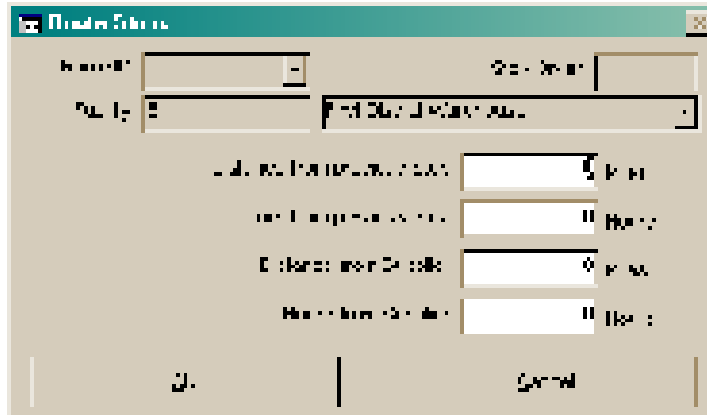

Figure 8.16 Route Stops form.
5. After selecting all facilities to be assigned to the route, click the right arrow to move the facilities to the Selected window. A Route Stops form (Figure 8.16) is displayed for each facility you selected.